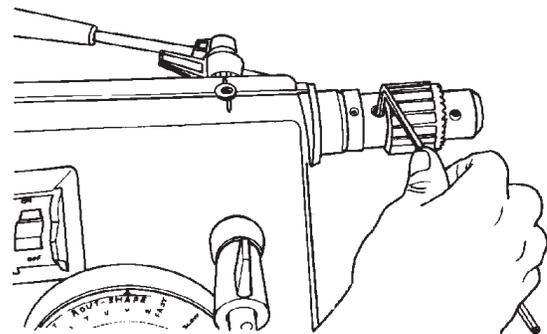
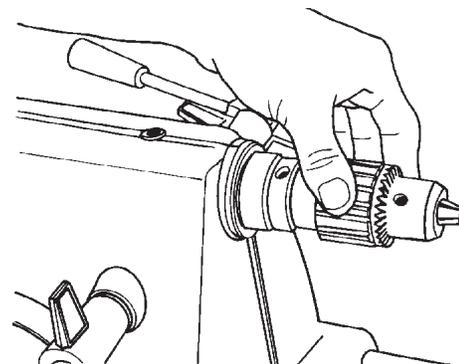

Figure B-113
Figure B-114
95. Mount the drill chuck on the spindle, as shown in Figure B-113. Completely close the chuck jaws, as in Figure B-114.